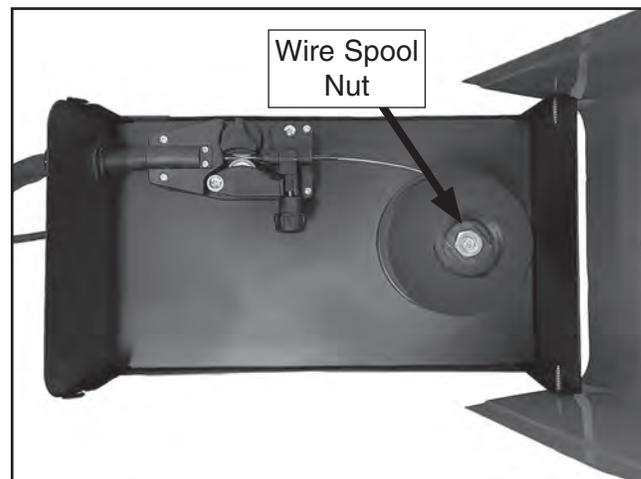

Figure 19. Wire spool tension nut.
4. Hand-tighten wire spool nut to apply tension to wire spool (see **Figure 19**). Spool should spin freely when wire is being fed through machine, but immediately stop after letting go of trigger to prevent unraveling.